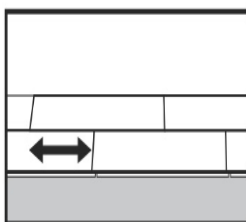

Figure 1.
5. First and last plank length should not be less than 300 mm. Short end joins on parallel planks should be at least 300 mm in distance from the adjoining plank, Figure 1. Plan the layout of plank lengths and visual aspects prior to final fix. This will assist in providing a balanced blend of grade, colour & alignment.
9. To optimise structural and visual performance, First and last plank length should not be less than 300 mm. Short end joins on parallel planks should be at least 300 mm lengthways in distance from the adjoining plank. Refer, Figure1.